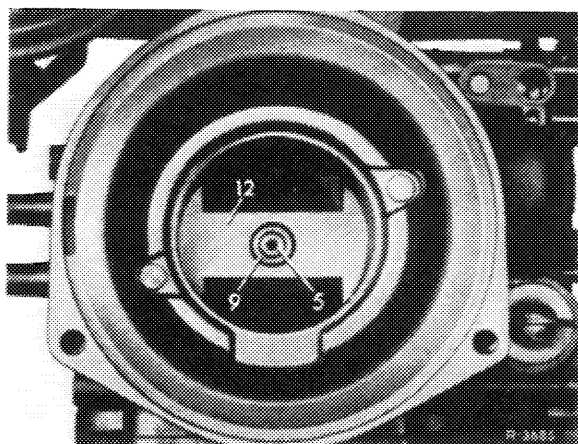

Fig. 07-4/12
3 Screw-in idle mixture adjustment screw (1) until upper edge of needle nozzle (5) projects approx. 1.0 mm above bridge (12) (Fig. 07-4/12 and 13).